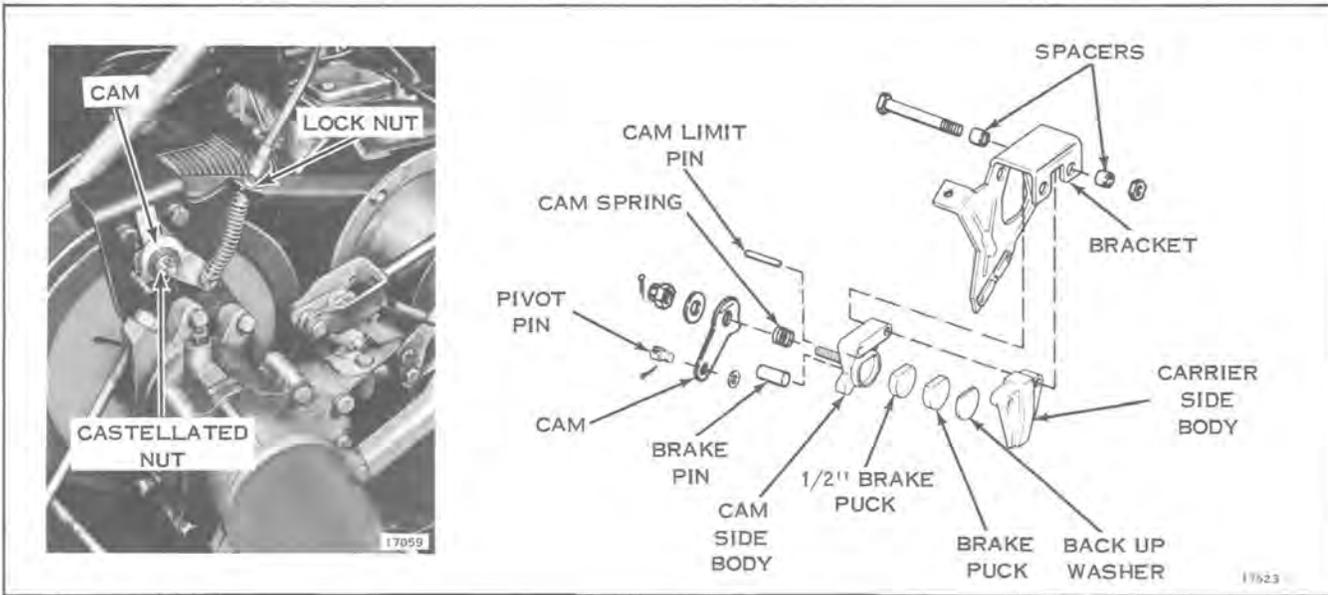

Figure 10-12
Brake adjustments can be made by removing the cotter pin and turning the castellated nut clockwise to tighten brake. Turn the nut until there is a slight drag on the brake, then back the nut off one notch and reinstall the cotter pin. See Figure 10-12.
Be certain there is proper movement of the brake lever control to permit use of the parking lock. Loosen control cable locknut and adjust cable nut to obtain proper control lever movement. See Figure 10-12. Tighten locknut.
- a. Remove cotter pin and loosen castellated brake adjustment nut. See Figure 10-12.
- a. Disassemble brake assembly as required, noting relative positions of components to assure correct reassembly (see Figure 10-12).
- a. Reassemble the brake and bracket assembly. Locknuts (2) on screws retaining the puck bodies must be tight.
- c. Assemble brake control cable, lockwasher and nut to brake bracket. See Figure 10-12.